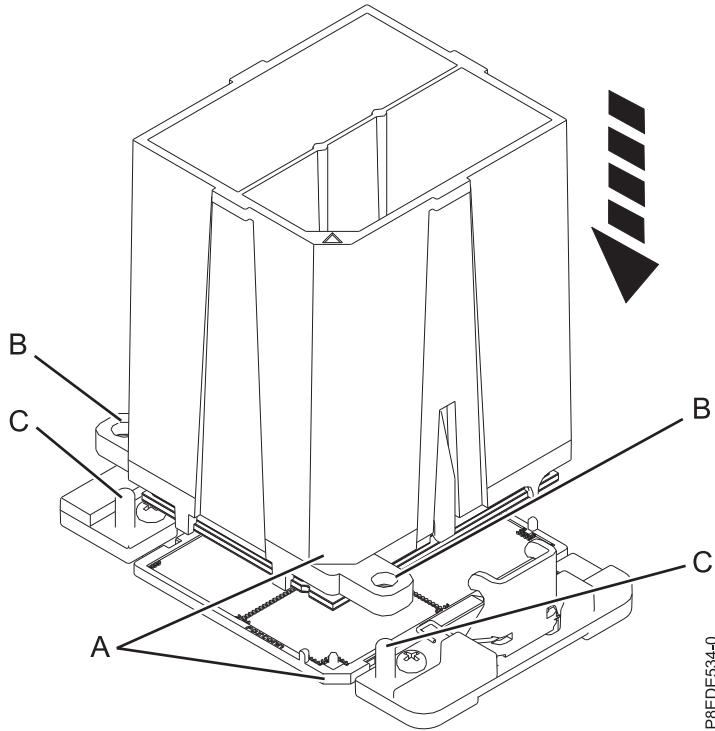

Figure 22. Installing the system processor module
- a. Lower the tool and system processor module onto the socket. Align the beveled corner (**A**) of the tool with the beveled corner on the socket. Ensure that the two guide pins (**C**) are inserted into the alignment holes (**B**) on each side of the tool. Use care to lower the tool evenly without tilting the tool. See Figure 22 on page 25.